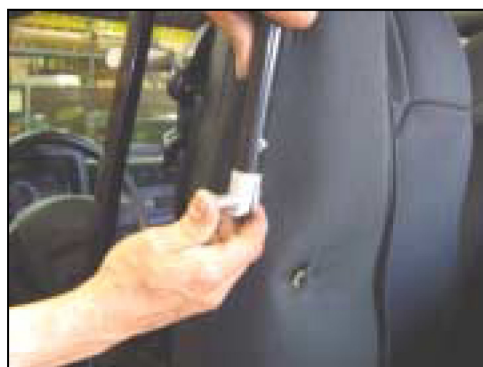

Figure 8
8. Once the top of the Side Bow (**P**) is secured, attach opposite side of the Side Bow to the upper hole on Bow Assembly Bracket (**T**) (Figure 8). Secure it with Billet Disconnect Pin w/ Clip (**U & V**).